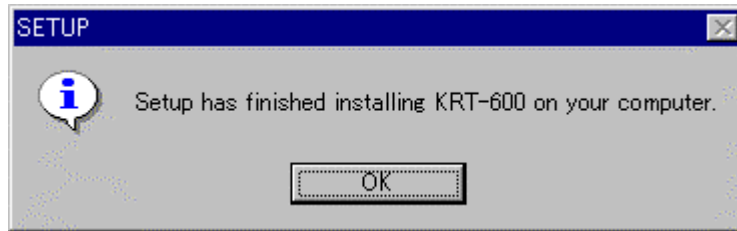

Fig. 7 Setup Finish Screen
(6) Click [Install] to start the installing process. After KRT-600 is installed, the Setup finish screen shown in Fig. 7 appears.